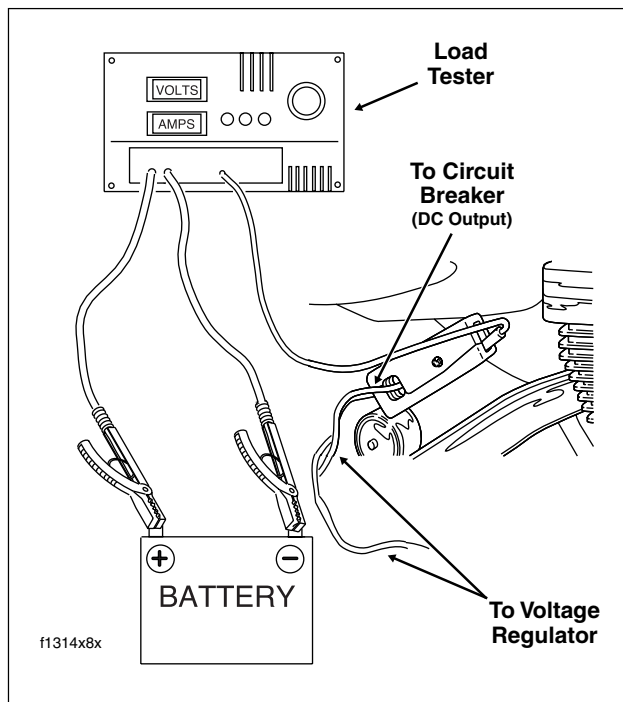

Figure 1-12. Current and Voltage Output Test
1. Connect load tester negative and positive leads to battery terminals and place load tester induction pickup over positive regulator cable as shown in Figure 1-12.
See Figure 1-12. After removing the load, read the load tester voltage meter. Voltage to the battery must be less than 15 volts. If voltage is higher, regulator is not functioning properly or connections are loose or dirty.